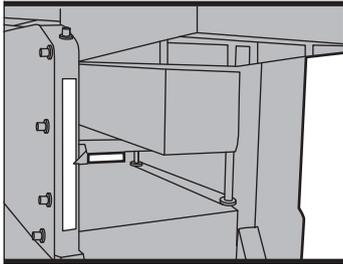

Fig 27
2.3 Thicknesser mode: Setting the depth of cut. (See Fig 27)